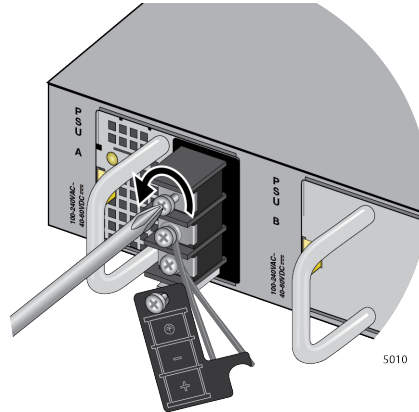

Figure 68. Loosening the Screw for the Negative (+)
5. Loosen the top screw for the positive (+) with a Phillips-head screwdriver. Refer to Figure 68 on page 128.